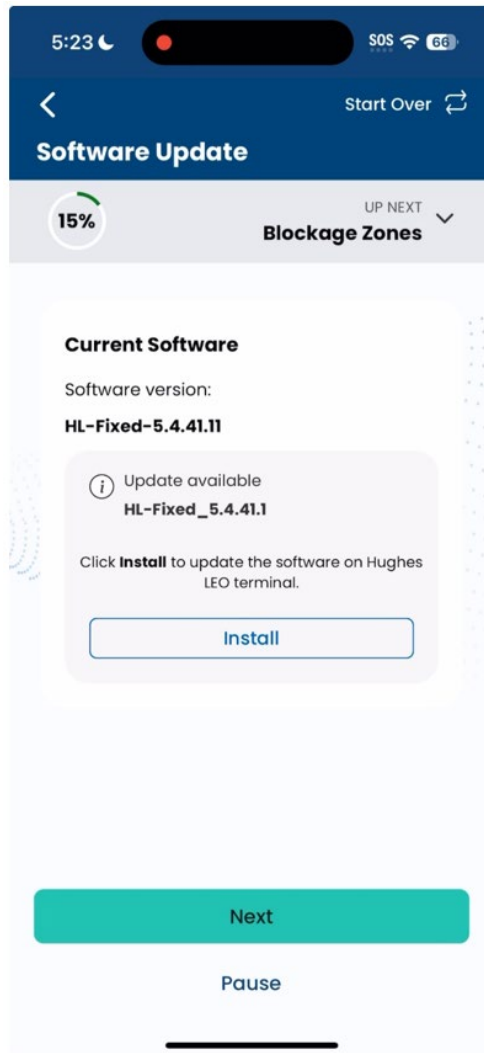

Figure 89: Software upload
1. You can skip this step, which is optional. Otherwise, in this step you can upload a software bundle to the user terminal, as shown in Figure 89. Wait for this process to complete, and then click **Next** when it's finished to move on to the next step.
Note: As mentioned at the beginning of this chapter, the app would have downloaded the latest software bundle for the user terminal from the cloud to the smartphone. The screen depicted in Figure 89 shows the current software used on the user terminal. If the software available on the smartphone is different from what is running on the user terminal, then the name of the software bundle downloaded to the smartphone will be shown on the screen, and you can click **Install** to upload the software bundle to the user terminal.